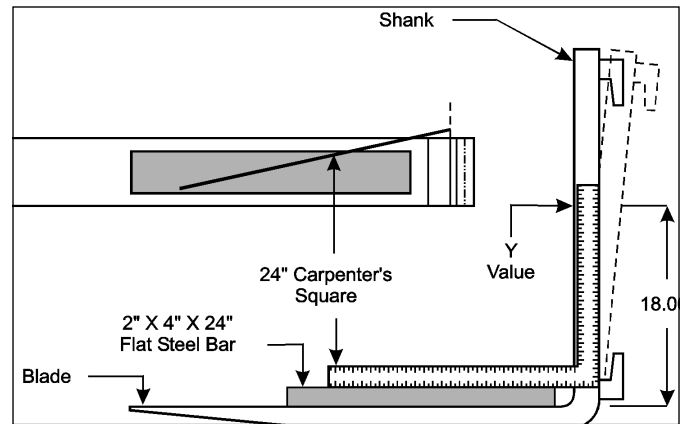

Figure 2-30: Fork Tip Elevation
5. Measure the distortion distance (Y) of your forks. **See Figure 2-30.**
6. For this measurement, use a flat bar 4" x 24" (101.6 mm by 609.6 mm), that is 2" (50.8 mm) thick. Also use a 24" (609.6 mm) carpenter's square. **See Figure 2-30.**
8. Next, measure the elevation of each fork tip. If the difference is more than 3/4" (19.1 mm), replace the forks. **See Figure 2-30.**